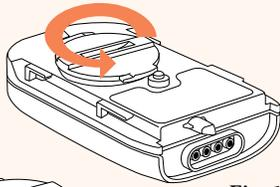

Fig. 1
- a. Turn the circular battery door counterclockwise with either a coin or your fingernail. (Fig. 1)